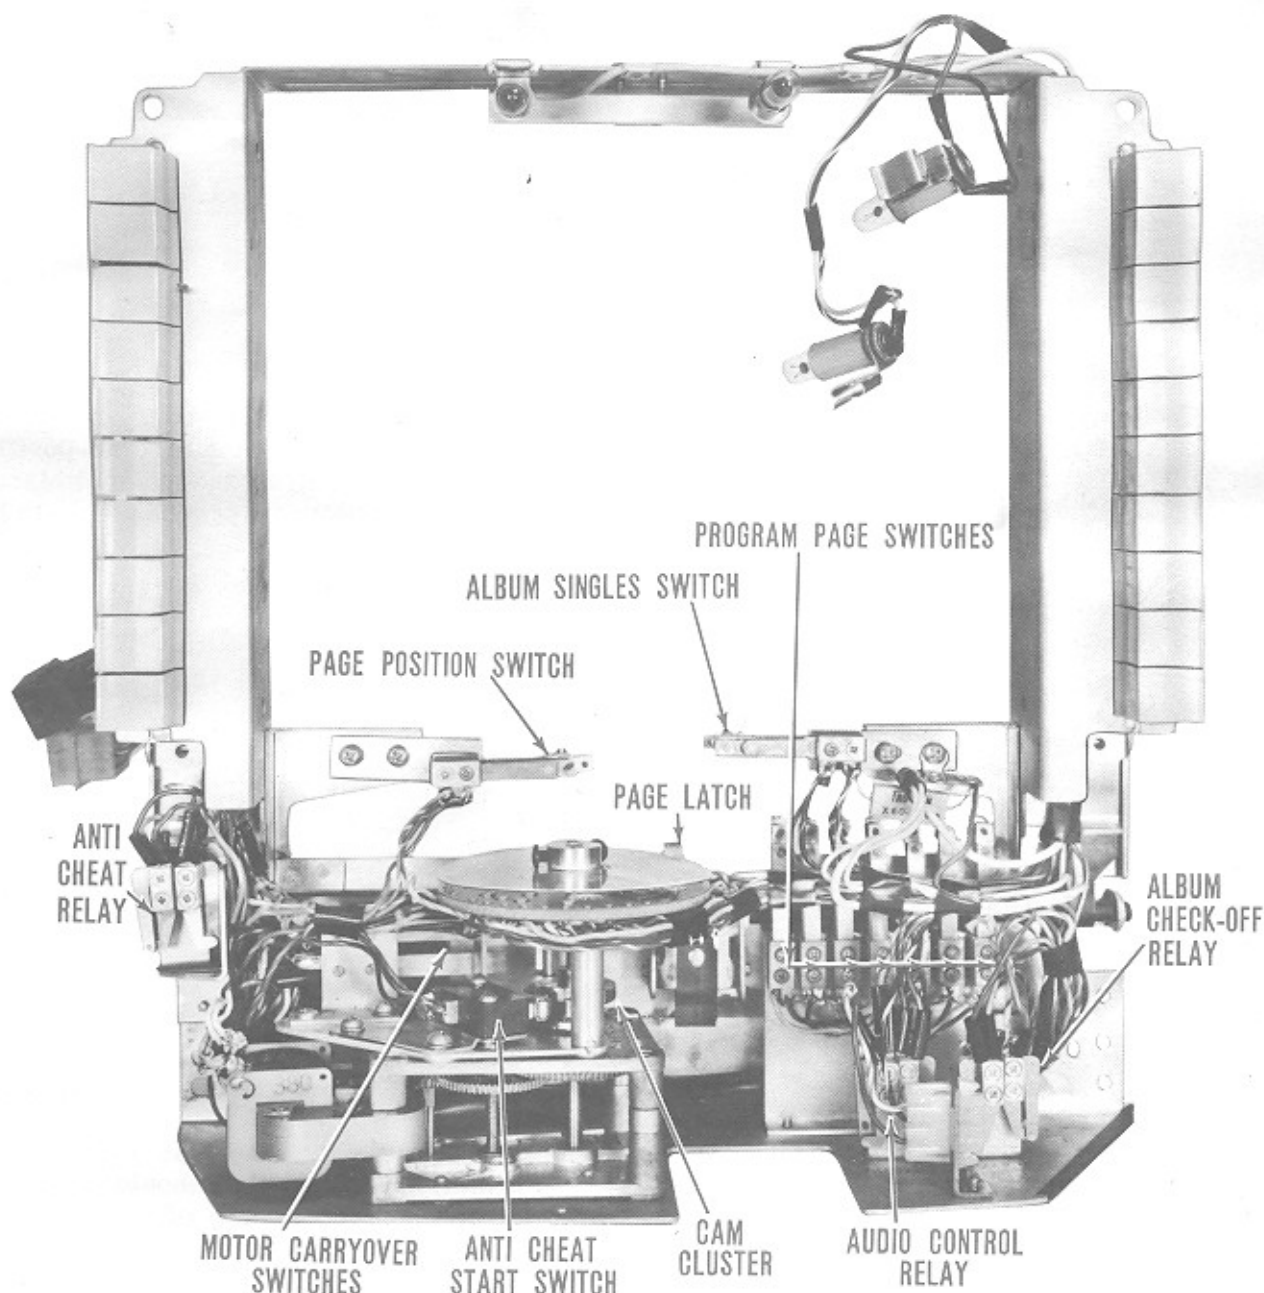

Figure 3
2. The center cam operates an Anti-Cheat Switch and four Motor Carry-over Switches. (See Fig. 3)